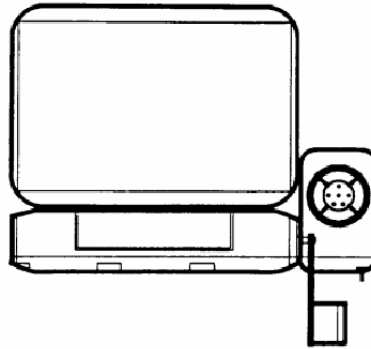

Figure 1-2. ANCD Rear View
- c. A rear view contains a 6 pin fill port as shown in Figure 1-2. All data must enter or exit this port.